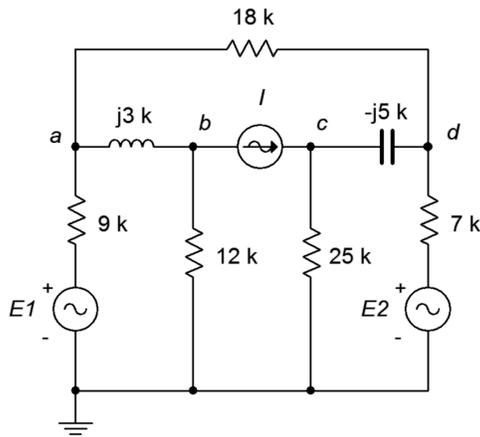

Figure 6.34
69. Given the circuit in Figure 6.34, determine  $v_{ad}$ .  $E1 = 22\angle 0^\circ$ ,  $E2 = -10\angle 0^\circ$ ,  $I = 2E-3\angle 0^\circ$ .